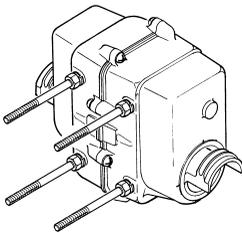

Figure 1
1. Referring to Figure 1, screw one 8mm nut over the end of each stud bolt with the shortest thread. Slip a spring washer over the threads, and screw each stud bolt into holes in the side of the rotator.